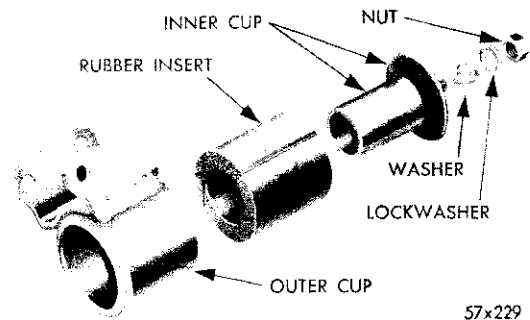

Fig. 59—Front Engine Mounting (Disassembled View)
40. REMOVAL OF FRONT ENGINE MOUNTINGS (Fig. 59)